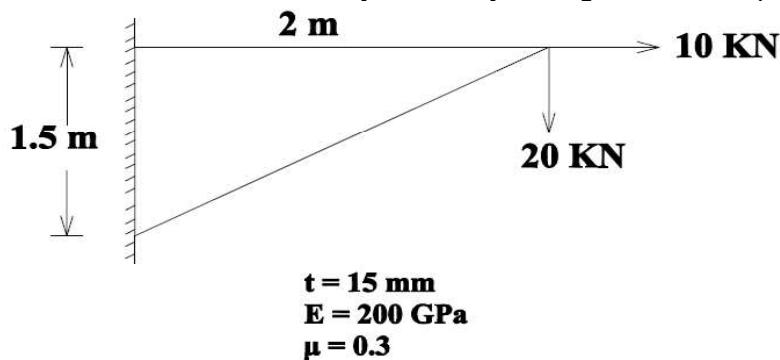

Fig.6
3. Compute the displacements and stresses for the element shown in Fig.6 using plane stress conditions. Body force may be neglected in comparison with the external forces.